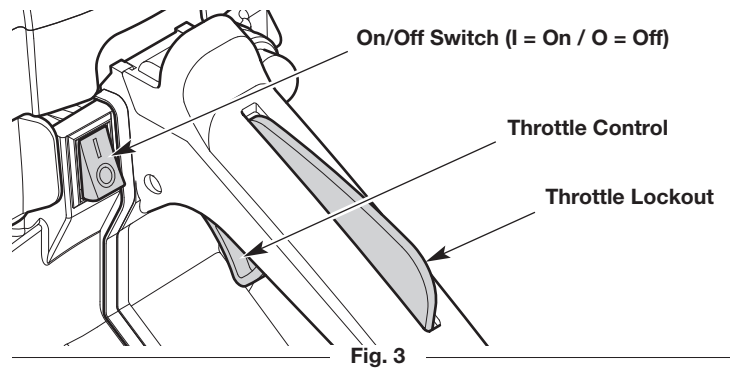

Fig. 3
1. Move the On/Off switch to the **On** position (Fig. 3).
**NOTE: DO NOT touch the throttle control (Fig. 3) until step 10.**
2. Move the On/Off switch to the **Off (O)** position (Fig. 3). Wait for the engine and saw chain to come to a complete stop.